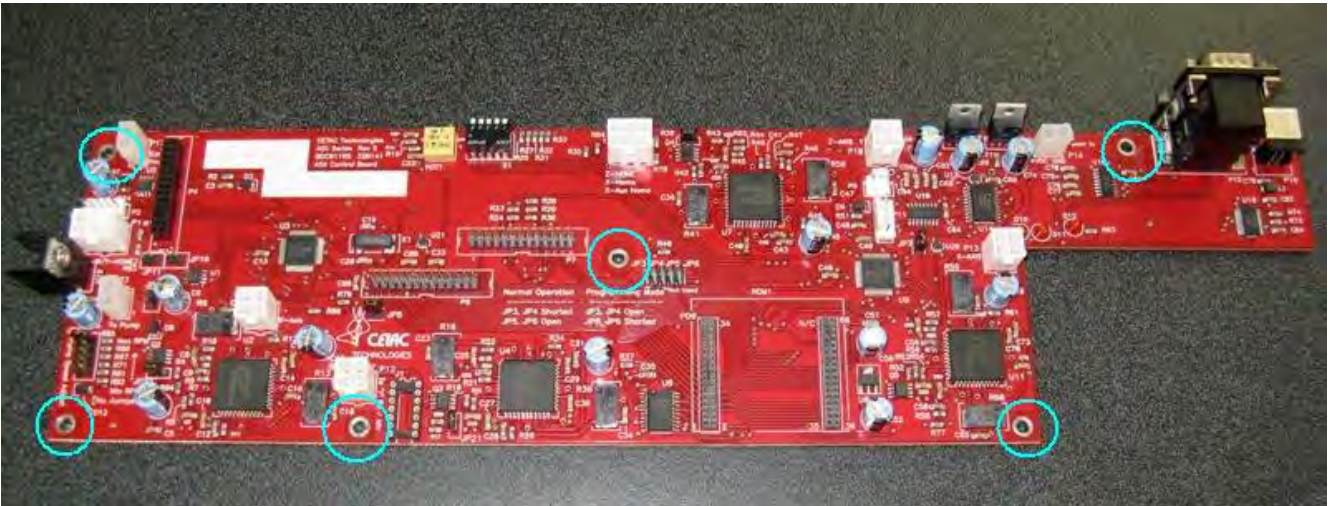

Figure 1-16. Main Board mounting screws.
15. Remove the six main board mounting screws. See Figure 1-16.